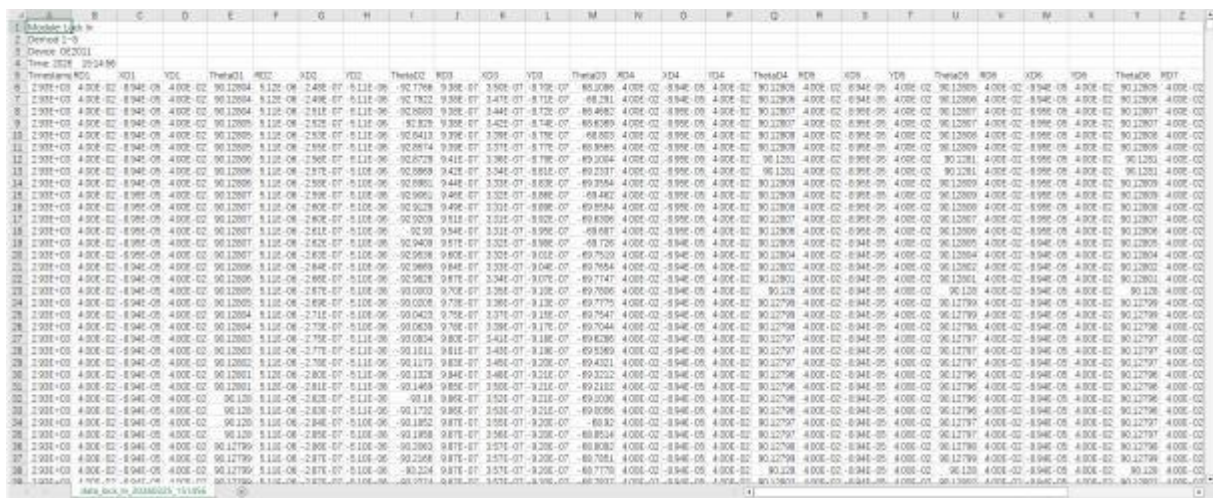

Figure 85. Data\_lock\_in\_XXXXXXXX\_XXXXXX.csv File Format
2、 The data is stored in Excel sheets with the file name "data\_lock\_in\_XXXXXXXX\_XXXXXX.csv", where "XXXXXXXX\_XXXXXX" represents the date and timestamp to ensure unique file names. Files are stored in the program directory by default, with data formatting examples shown in Figure 85.